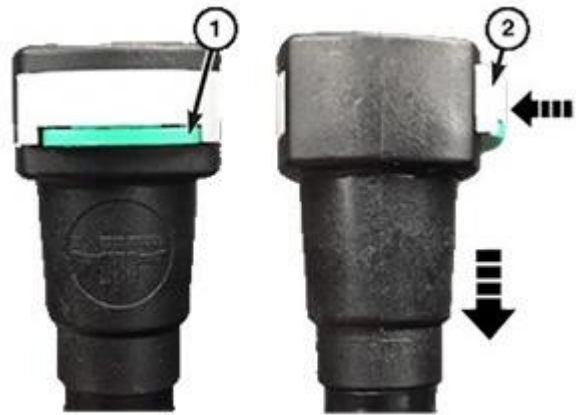

Figure 8 – Hose Connections
- Do not press on the green anti-tampering feature (1) (Figure 8).
- Push in and hold only the side of the release (2) with the green anti-tampering feature and pull the quick coupling away from air cleaner body cover.